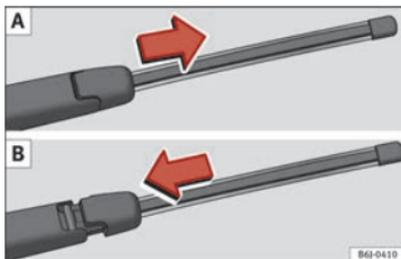

Fig. 165 Changing the rear window wiper blade.
- Slide the blade adapter in the direction of the arrow and remove the blade ⇒ Fig. 165 A.
- Place the blade as shown in the ⇒ Fig. 165 B and slide the adapter along until it engages.